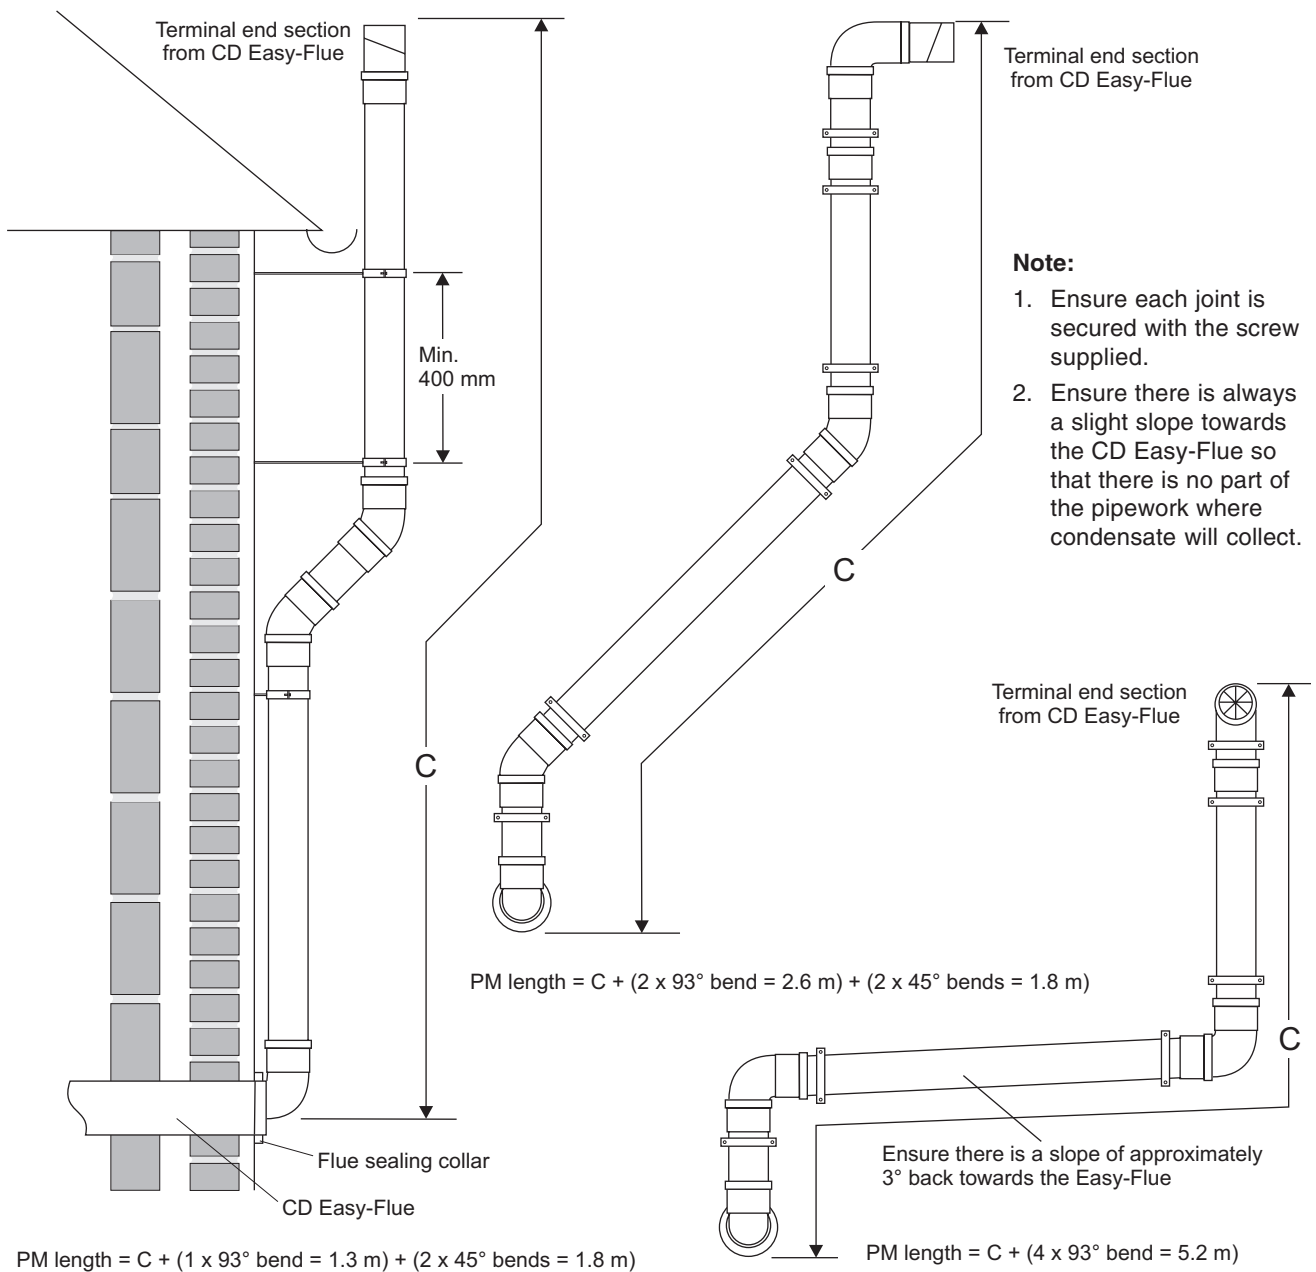

Fig. 9
- iii. Connect to the 93° bend the required Plume Management components as detailed and refer to Fig. 9.
- iv. Terminate the Plume Management pipework by fitting the terminal end section (push-fit) previously removed. Refer to Fig. 9.